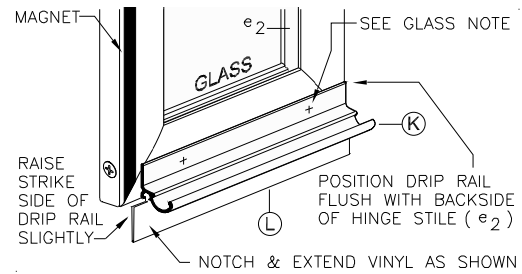
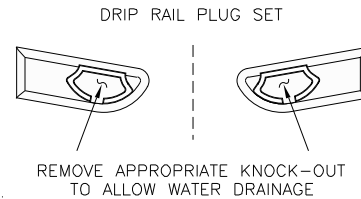

Figure 10a
Figure 10b
Notch and extend Vinyl Sweep (L) pass Drip Rail edge as shown in figure 10a. Attach Drip Plugs (M) onto Drip Rail (see exploded view - sheet 1), and remove the knockout on the hinge side drip plug so the water will drain (see figure 10b).
Clean bottom rail of door with alcohol to remove any oil. Failure to clean door rail prior to installation of Drip Rail (K) may cause tape to release. Remove backing from tape and position Drip Rail flush with backside of Pivot Stile (e2) as shown in figure 10a.